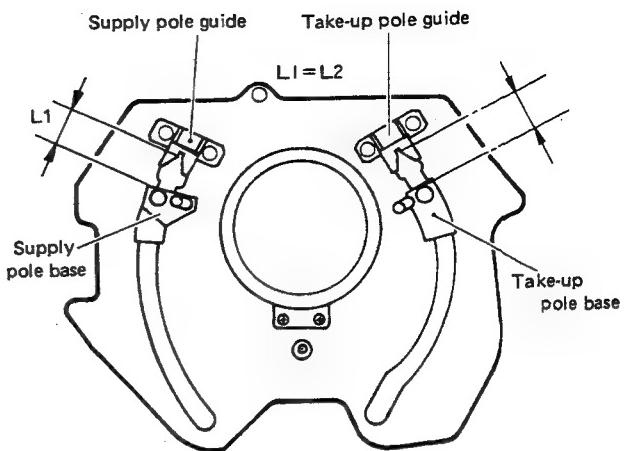

Fig. 2-16 Loading ring check
8. Turn the loading motor pulley by hand to move the loading ring slightly in the unloading direction. Check for equal spacing between the supply pole guide and supply pole base, and between the take-up pole guide and take-up pole base. See Fig. 2-16. If not equal, the loading gear ass'y mounting position is incorrect. Repeat the above step 7.